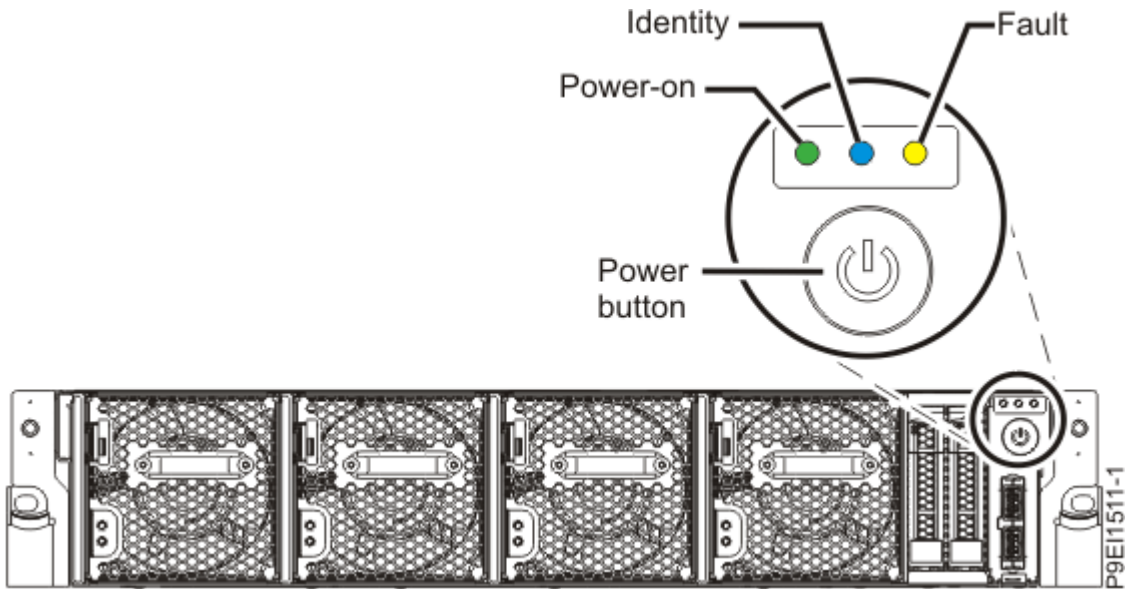

Figure 44. Power button
- The power-on LED as shown in Figure 44 on page 93, is flashing. A flashing light indicates standby power to the unit.
3. Press the power button that is shown in Figure 44 on page 93.